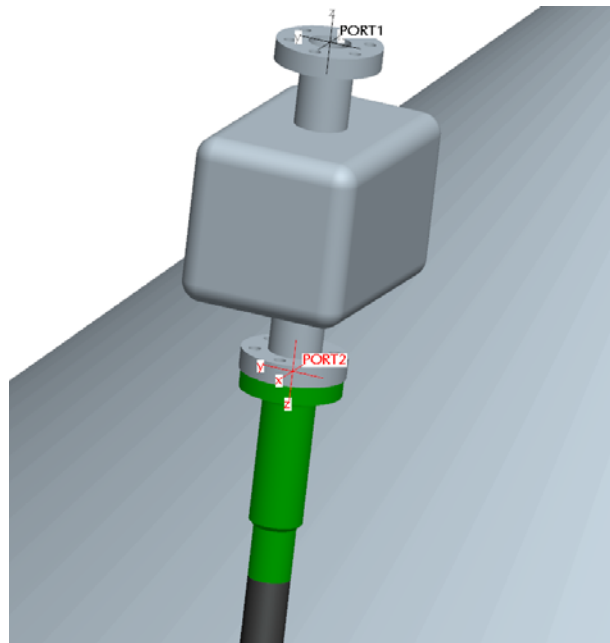

Figure 2
- 4.3.3 If the "START_CSYS" and "END_CSYS" weren't created in the Installation skeleton, create transformed CSYS's from the "PORT_CSYS" of the start and end fittings and name them. (Ex. "END_CSYS") (See Figure 2)